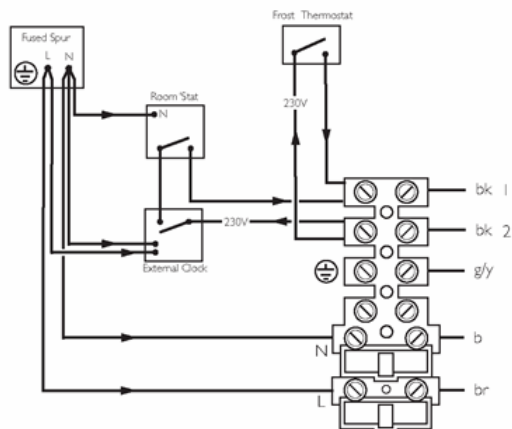

Fig. 57
6. Remove the link between terminals 1 & 2. The 230V supply at terminal 2 must be connected to the thermostat. The switched output from the thermostat must be connected to terminal 2. (Fig. 57). If the room thermostat being used incorporates an anticipator it **MUST** be wired as shown in Fig. 57.